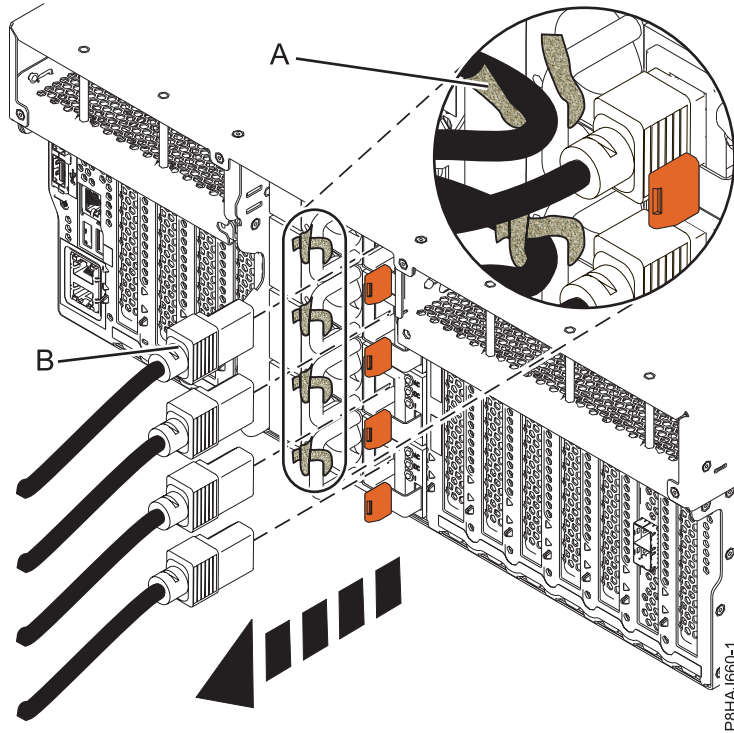
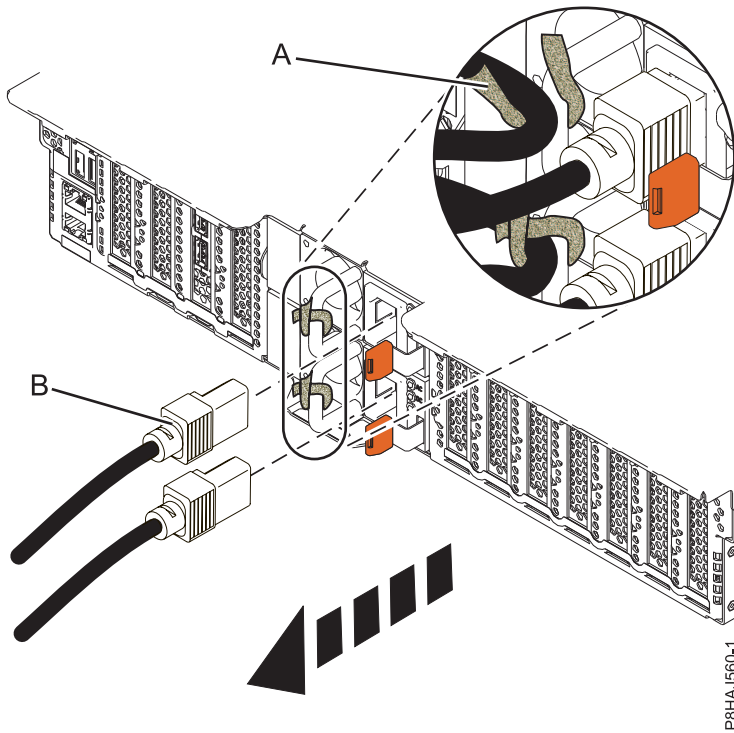
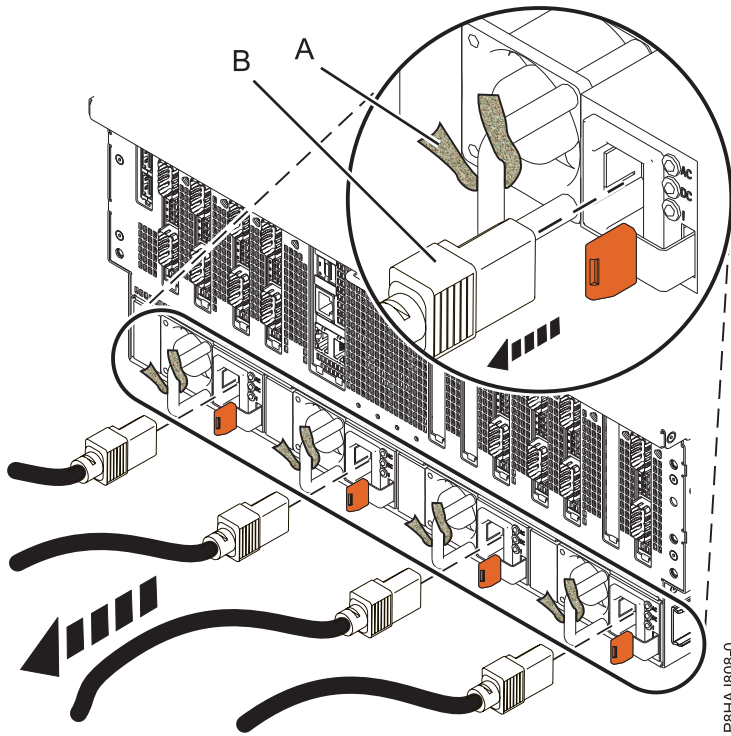

Figure 74. Removing the power cords from an 8247-42L, 8286-41A, or 8286-42A system
Figure 75. Removing the power cords from an 5148-21L, 5148-22L, 8247-21L, 8247-22L, 8284-21A, or 8284-22A system
Figure 76. Removing the power cords from an 8408-44E or 8408-E8E system
3. Disconnect the power cords (**B**) from the system unit. See Figure 74 on page 101, Figure 75 on page 101, or Figure 76 on page 102 or depending on the type of your system.